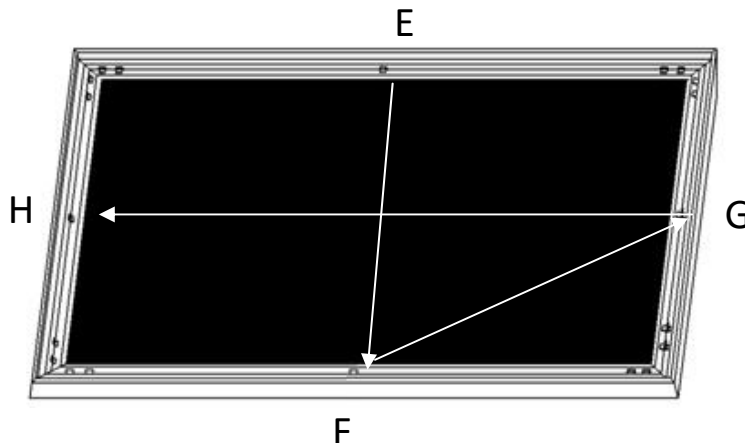

Fig.6
- (4) Place a fix plate in the center of each side in the following order E→F→G→H. (Fig.6)